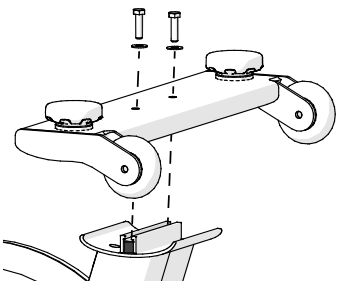

Figure 5
- Attach the front stabilizer to the frame using two bolts 1 and two flat washers 2 (Figure 5).